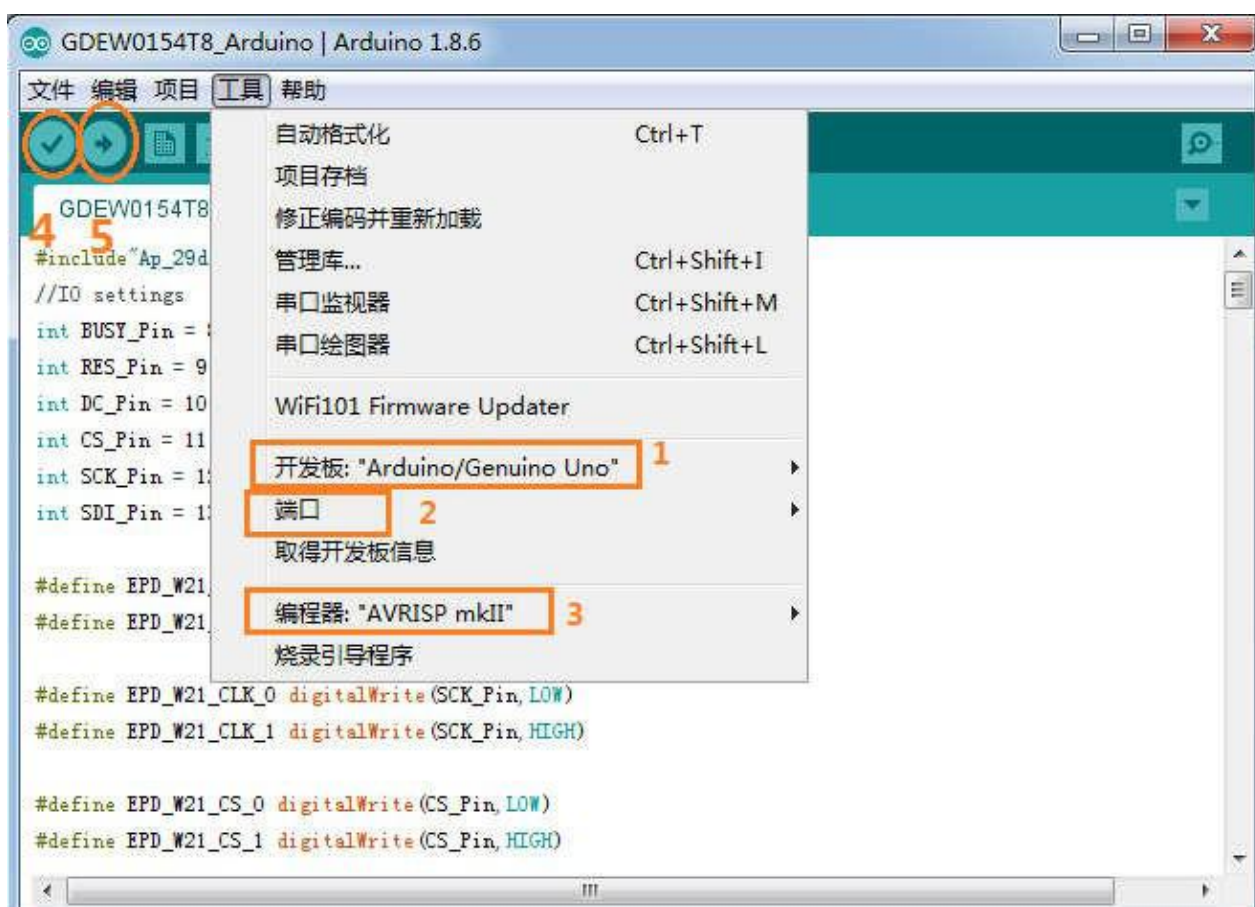

Figure 9 : Steps of downloading program
- 4) Configure in “工具” in Figure 9.
- 5) Select development board model “Arduino/Genuino Uno” in position 1 of Figure 9.
- 6) Select COM port in position 2 of Figure 9.
- 7) Select programmer model “AVRISP MKII” in position 3 of Figure 9.
- 8) Click position 4  of Figure 9 to compile the program.
- 9) Click position 5  of Figure 9 to download the program to development board.